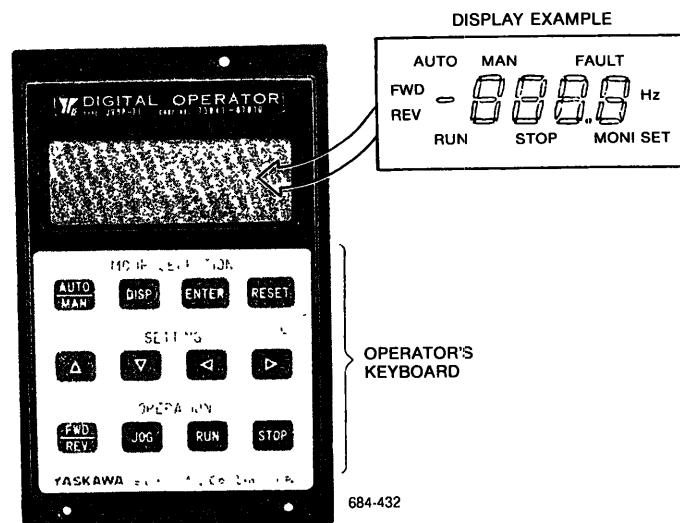

Fig. 17 Digital Operator (Optional)
5.3.2 Use of Digital Operator Model JVOP-71 (Optional) (Fig. 17)